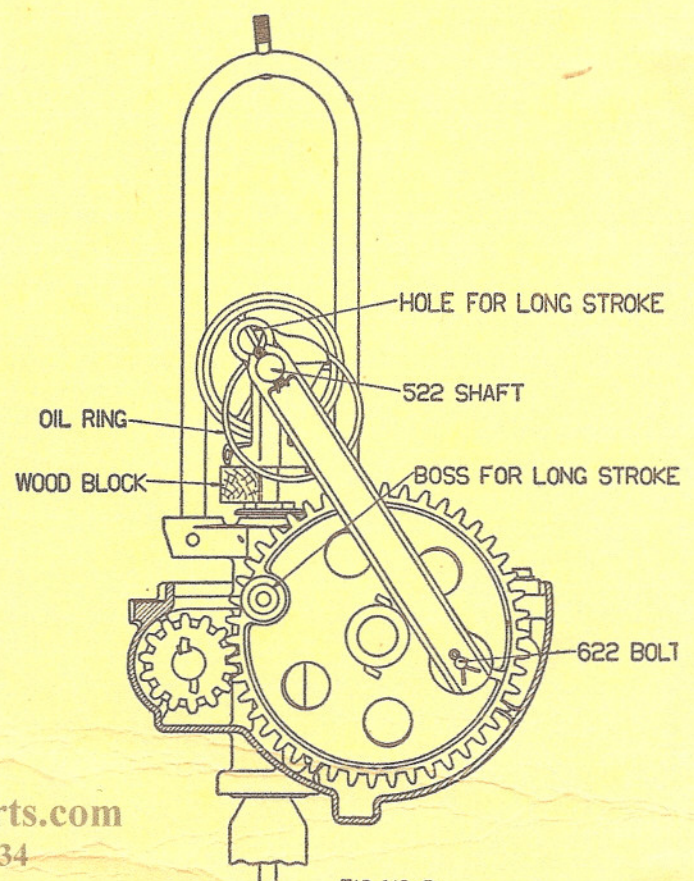

FIG. NO. 2
6. Turn gears until pitmen are near bottom of stroke, as in Fig. No. 2.